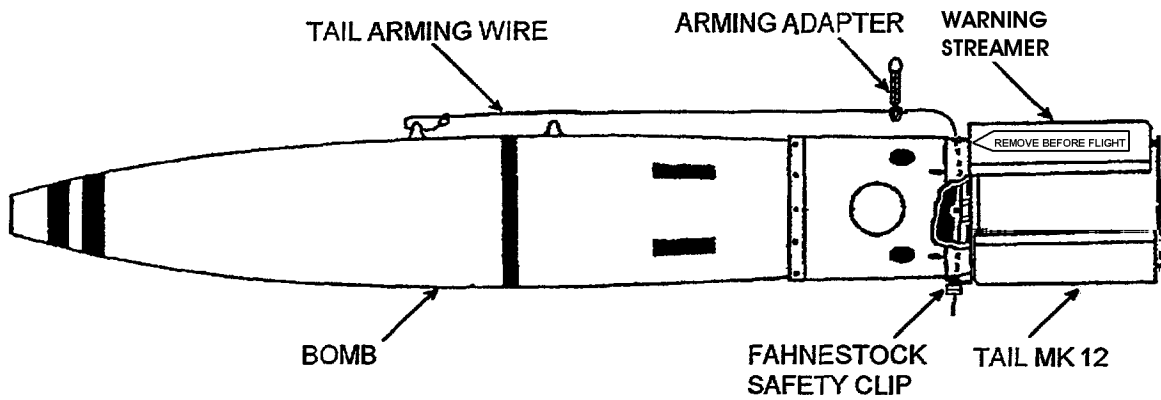

Figure 4-12F. Arming Wire Rigging for F/A-18 and P-3 Aircraft
- (2) Pass the loop end of the arming wire through the forward side of the forward suspension lug. Pass the straight end of the wire through the loop end, drawing on the wire until a 1-1/2 inch loop is formed (Figure 4-12F).
- (3) Remove the self-adjusting arming adapter from the Arming Hardware Kit Mk 165.
- (4) Pass the arming wire through the ring of the self-adjusting arming adapter.
- (5) Insert free end of arming wire through the 3/4-inch hole in tail section directly above the control unit. Pass free end through the vacant hole in control unit and out the 3/4-inch hole at the bottom of tail section.